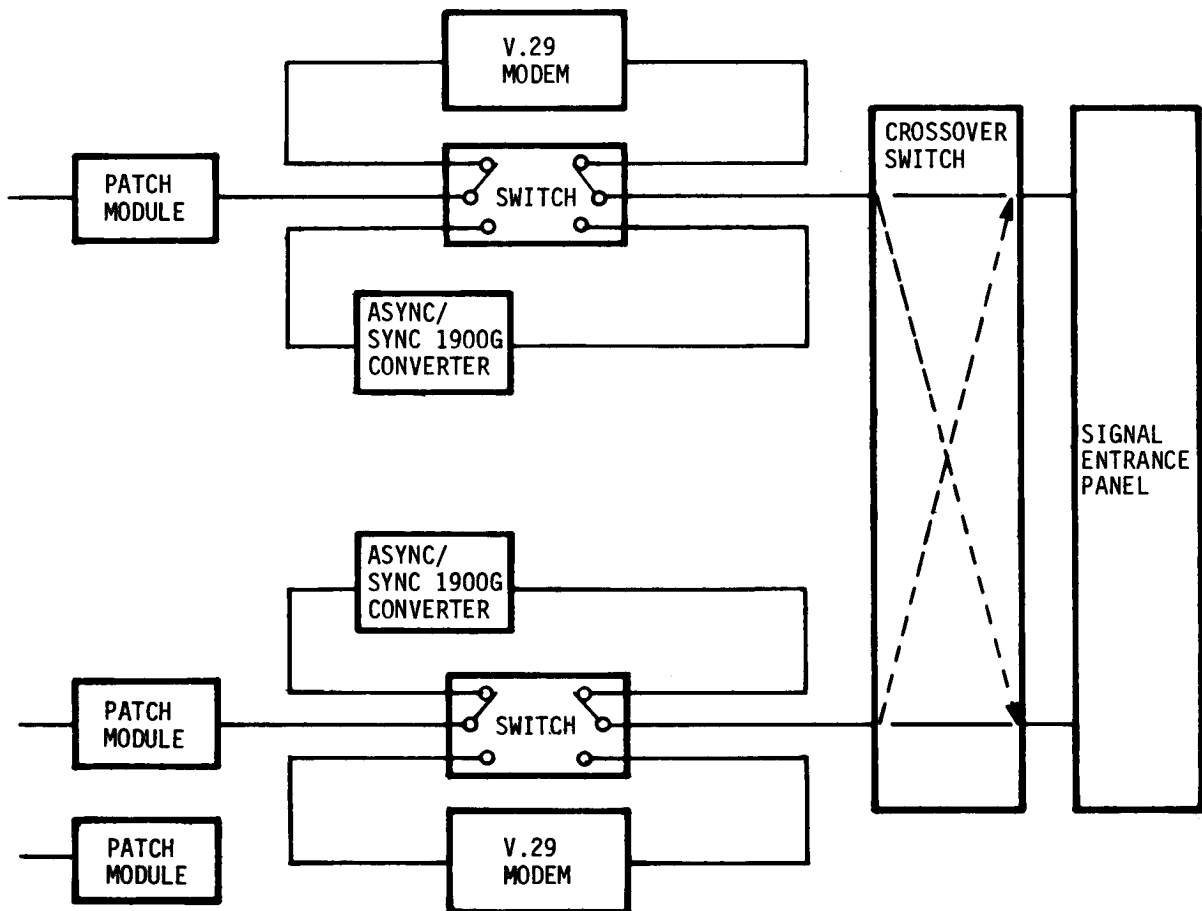

Figure 2-19. Block Diagram, Cabinet A Circuits
(1) All transmitted or received data processed through cabinet A is directed through one or both of the two primary circuits.
(2) The two primary cabinet A circuits (fig. 2-19), are identical. Each has a synchronous high speed modem and an asynchronous dc low-level interface. A switch between the two devices allows the operator to select the mode of operation required. Manual patch modules allow circuit-to-circuit patching, including the bulk data circuit which originates at a patch module. The crossover switch allows cabinet A circuits and the transmission circuits to be interchanged.
(3) The modem-to-interface switches and the patch modules are identical to those in cabinet B. Refer to their descriptions in paragraphs describing cabinet B signal processing equipment.
(4) Cabinet A also has a voice/data device switch. When set in voice position, signals coming into the signal entrance panel are routed to the phone binding posts at the left side of the cabinet. In the data position, the line becomes a data channel and overrides the voice capability.
(5) The V.29 modem is a high-speed type capable of transmitting and receiving serial synchronous data at baud rates of 2400-9600 bps over 4-wire dedicated lines. The V.29 modems are used for direct connection to another DAS3 (D/S), AUTODIN interface, and IBM 2780/3780 interface.